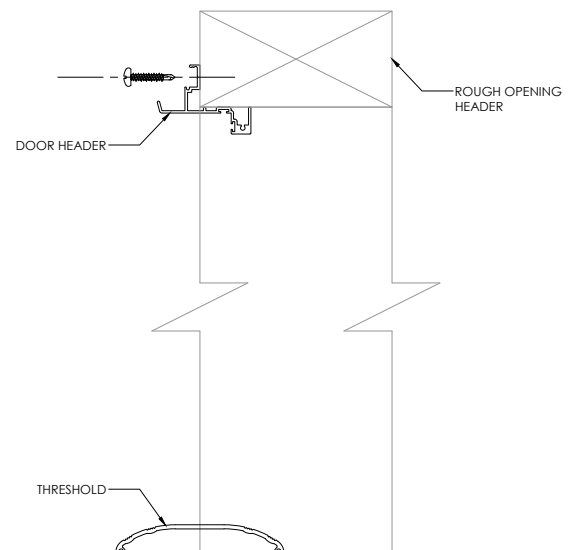

Figure 5
8. Finish attaching the header by screwing through prepunched holes in facing of rail into jamb with #6 x 1" color matched screws (provided). **See Fig. 5.**